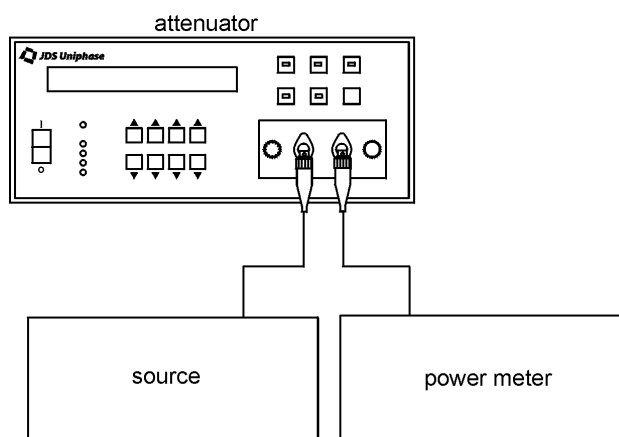

Figure 10: Wavelength Verification Setup
5. Connect the source to the attenuator, and connect the attenuator to the power meter (Figure 10).
4. Connect the source to the attenuator, and connect the attenuator to the power meter (Figure 10).